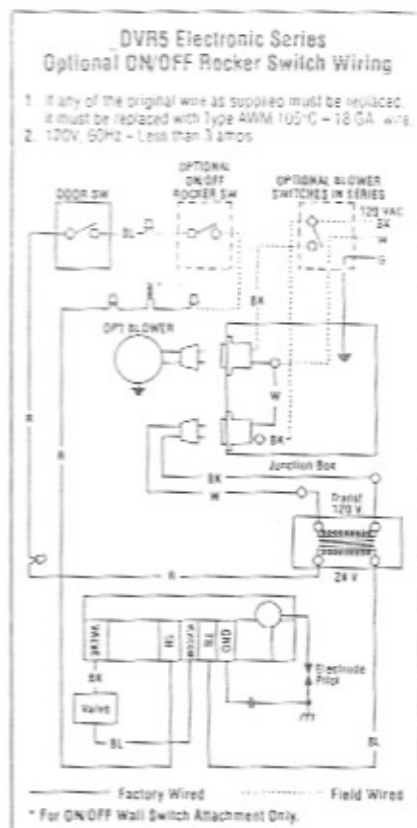

Figure 25
*Note: The optional rocker switch is mounted to the appliance and wired in the same way as the remote wall switch (Figure 25).*